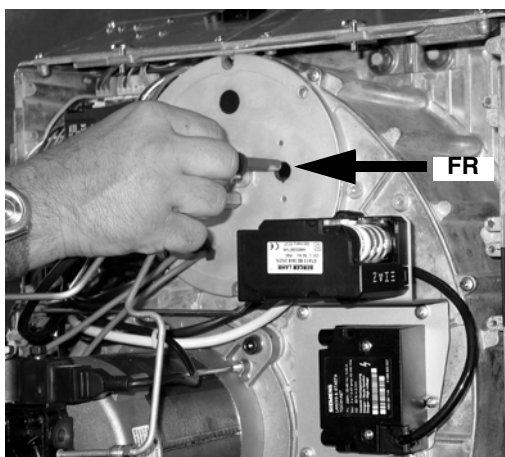

Fig. 24
- Withdraw the photoelectric cell FR from its housing (Fig. 24).